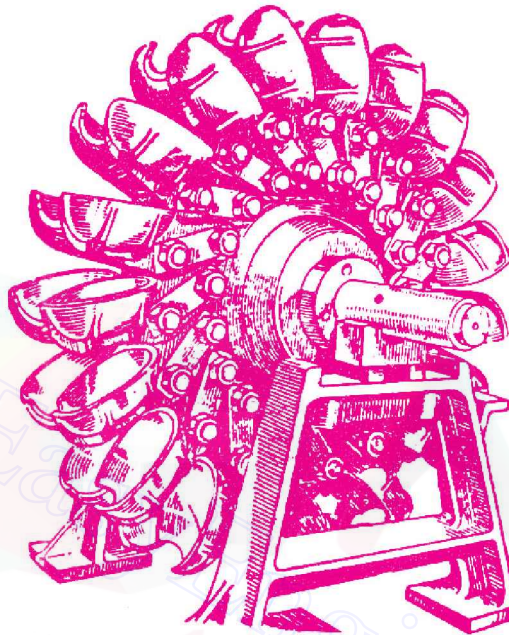

Fig. 18.3 *Runner of a pelton wheel.*
**2. Runner with Buckets.** Fig. 18.3 shows the runner of a Pelton wheel. It consists of a circular disc on the periphery of which a number of buckets evenly spaced are fixed. The shape of the buckets is of a double hemispherical cup or bowl. Each bucket is divided into two symmetrical parts by a dividing wall which is known as splitter.